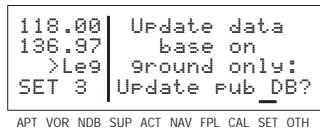

Figure 2-2
4. Turn on the KLX 135A. Press **ENT** as required to approve the Self Test, Initialization, VFR, and Data Base pages. Use the right outer knob to select the Setup (SET) type pages and the right inner knob to select the SET 3 page (figure 2-2).
NOTE: In step 6, repeatedly pressing **CLR** will terminate the update process and bring the display back to the original SET 3 page shown in figure 2-2.